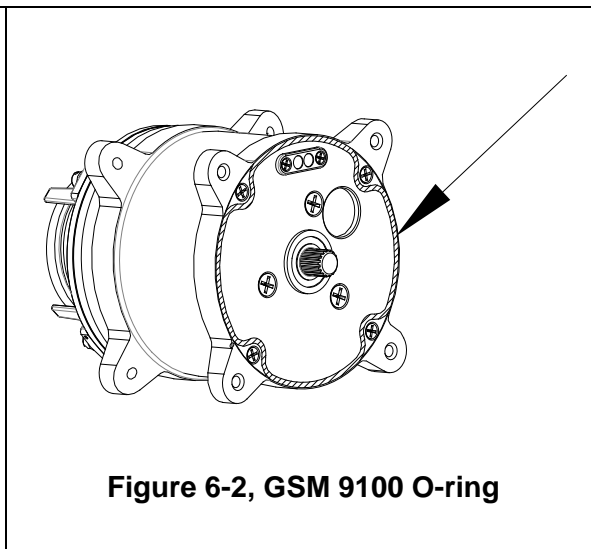

Figure 6-2, GSM 9100 O-ring
2. For GSA 9000 Yaw servo motor only, install a new O-ring P/N AS568-043 on the GSM 9100 servo gearbox (see Figure 6-2).